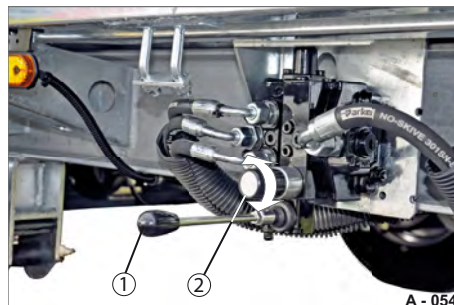

Fig. 86 Operating point
- Set the pressure at the pressure regulator (Fig. 86/2).
- Operate the lever (Fig. 86/1) until the correct track width is set.